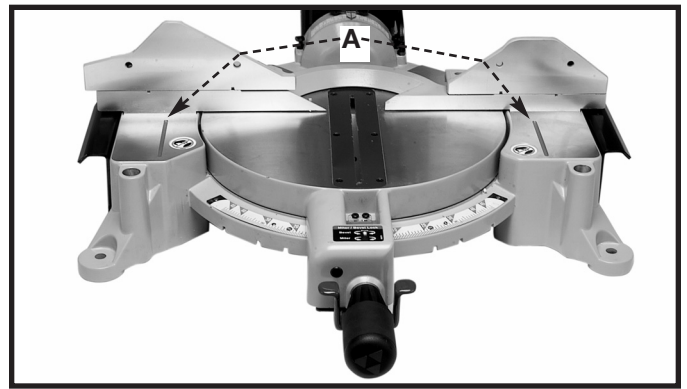

Fig. 9
**⚠ WARNING** The area inside the two red lines (A) Fig. 9 on the table is designated as a “Hazard Zone”. NEVER place your hands inside this area while the machine is running.